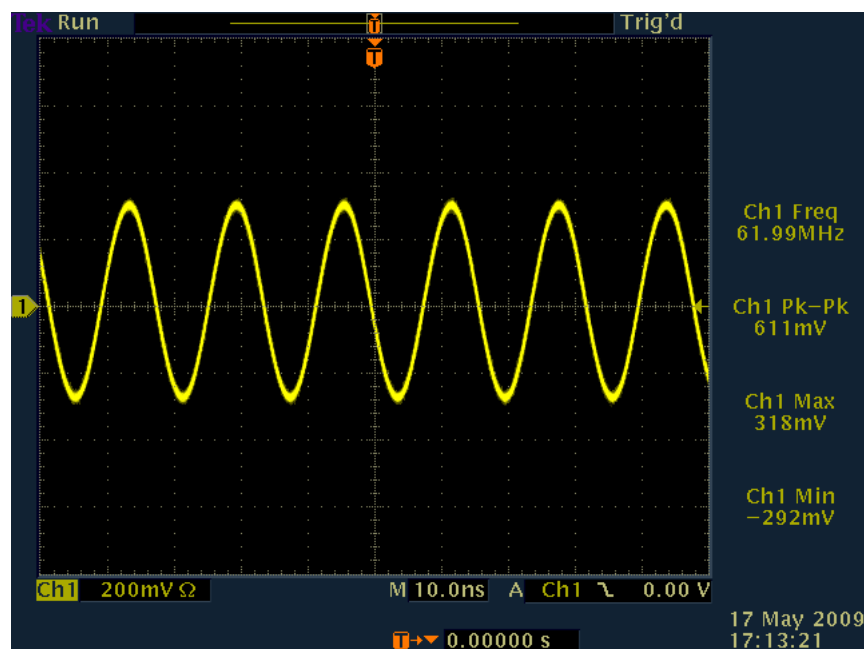

Figure 4.3: Measured: 62.5MHz Sine Wave
- iv. I was also able to get a really nice looking sine wave to come out of the DAC5682Z, when I cycle through static values that are representative of a sine wave. See Figure 4.3. For example,